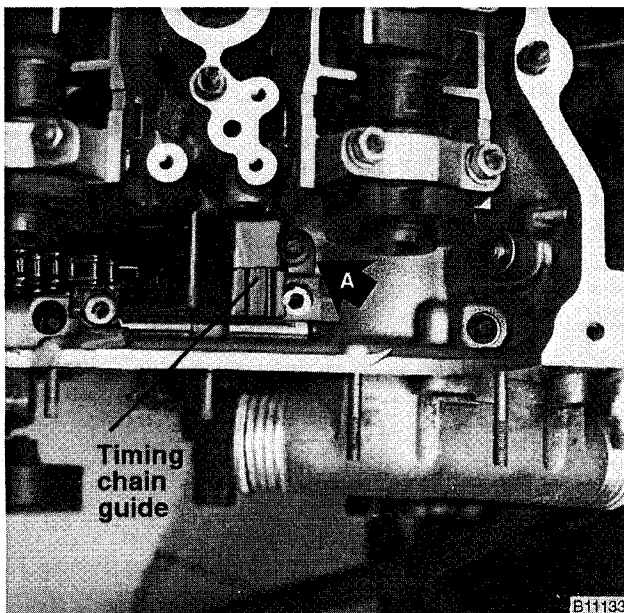

Fig. 30. Timing chain guide mounting bolt (A).
28. Remove remaining Torx bolt from timing chain guide. See Fig. 30.